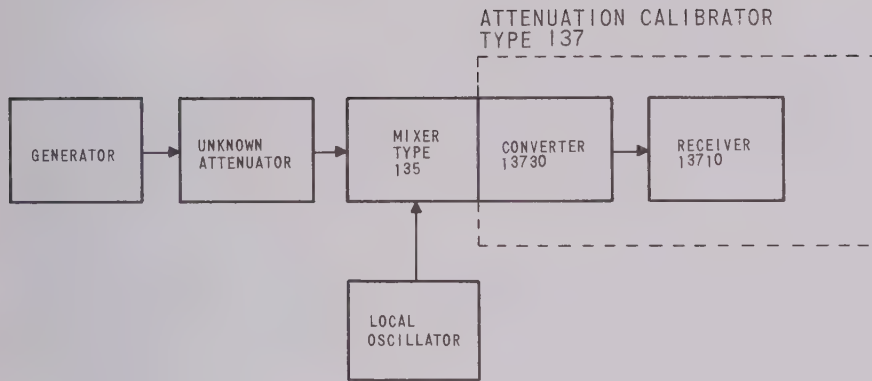

FIGURE 4-2. BASIC RF ATTENUATION MEASUREMENT EQUIPMENT
The arrangement of the basic test equipment required for RF attenuation is shown in Figure 4-2. In this system, the mixer converts the change of the RF power level to an equal, linearly related, power level change at the 70 MHz IF. The front panel meter or a recorder may be used to monitor a change in the IF signal level. A precision, highly accurate, waveguide-below-cutoff, IF attenuator (located in the receiver) should be adjusted so that the meter or recorder indicator is at the same position for two conditions; (1) the IF standard is at a 0.00 dB (reference) setting and the unknown RF attenuator is in the system, and (2) the unknown is removed and the system reconnected. There are three major factors that limit the measurement range and accuracy of an IF-substitution system: the nonlinearity of the mixer at high RF signal levels, the effects of the presence of noise at low RF signal levels, and amplitude instability of the IF signal due to frequency variations of the RF signal and local oscillator. In the Type 137, a new noise stabilization technique overcomes the effects of the background noise and a coherent frequency control loop reduces errors caused by frequency variations of the RF signal and local oscillators.
- a. Connect the unknown RF attenuator into the system as shown in Figure 4-2.